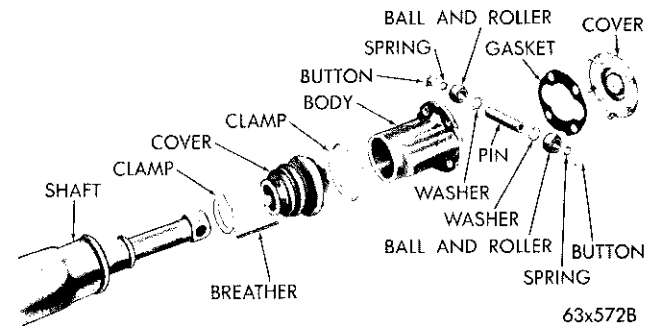
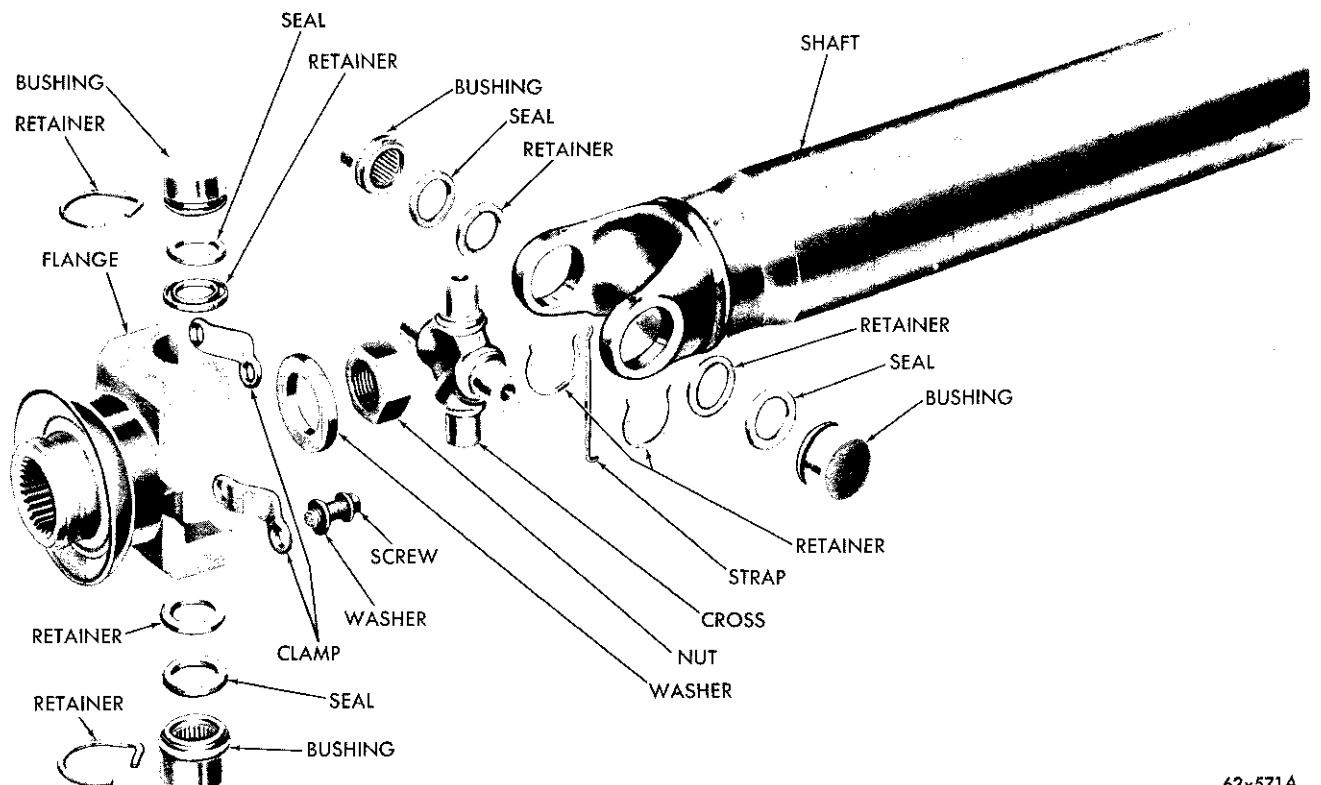
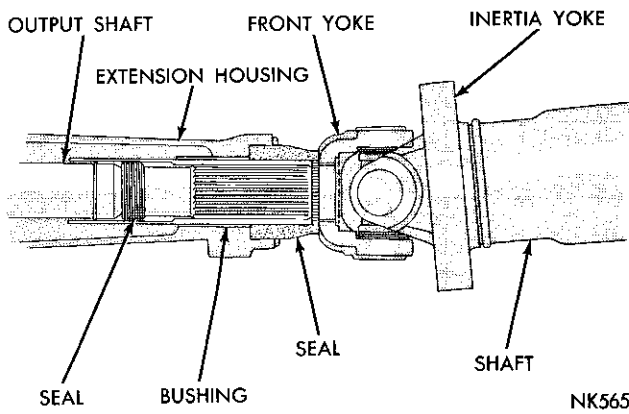

Fig. 1—Ball and Trunnion Universal Joint—Front (Manual Transmissions)
Fig. 2—Cross and Roller Universal Joint—Rear (All Models)
Fig. 3—Front Universal Joint Sliding Yoke (AC-1, AC-2 Models with Automatic Transmission)
All models equipped with manual transmissions use propeller shafts with a ball and trunnion type universal joint at the front end (Fig. 1) and a cross and roller type universal joint at the rear (Fig. 2).
AC-1, AC-2 Models equipped with TorqueFlite transmissions, use propeller shafts with a cross and roller type universal joint incorporating an inertia yoke and an internally splined yoke, at the front end (Figs. 3 and 4). A cross and roller type universal joint is used at the rear (Fig. 2).
The propeller shaft used on AC-3 models is provided with a constant velocity universal joint at the front end (Fig. 5). This joint is provided with a sliding type yoke, similar to that used on AC-1, AC-2 models. The rear joint is a single cross and roller type (Fig. 2).
(1) Remove both rear universal joint roller and bushing assembly clamps from the drive pinion flange (Fig. 2).
(2) Disconnect the joint from the transmission flange by removing the attaching bolt nuts (Fig. 1) and remove the propeller shaft from the vehicle.
(3) Slide the propeller shaft with the front yoke from the transmission output shaft (Fig. 3). Be careful not to damage splines on output shaft or yoke. Examine the sliding yoke seal for evidence of leakage. If no leakage is evident, do not disturb the seal. If necessary to replace the seal, refer to Transmission Group, 21.
(2) Engage the yoke splines on the end of the output shaft, being careful not to burr the splines (Fig. 3).
(1) Install the rear universal joint cross roller bushings in the seats of the pinion yoke. Install the bushing clamps and attaching screws (Fig. 2). Tighten the screws to 170 inch-pounds.
(1) Straighten the tabs on the cover (Fig. 1) and remove the cover and gasket. Push the body back and remove the buttons, springs, ball and rollers and washers from both ends of the trunnion pin.
(2) Remove the cover clamps and loosen the dust cover. Remove the cover and polished jute breather located between the shaft and rear end of the cover. Save the breather.
(3) Clean and examine the trunnion pin and raceways in the body for excessive wear. If wear is excessive, replace the body.
(4) If either part is to be replaced, use a hydraulic press and installing and removing jig Tool C-3567.
(3) Pack the balls and rollers with Universal Joint Grease, NLGI Grade 2. Install a thrust washer, ball and rollers, button spring and centering button on each end of the trunnion pin (Fig. 1).
(4) Position the dust cover on the propeller shaft with the jute breather parallel to the shaft and extending one-half inch outside the small end of the cover. Install and tighten the small clamp. Position the dust cover on the body and install and tighten the large clamp.
(5) Lubricate the joint with two ounces of Universal Joint Grease NLGI Grade 2, applying it evenly in both raceways, one-half back of the trunnion pin and one-half between pin and cover.
(1) Remove the four bushing retainers from the yoke (Figs. 2 and 4). Press one roller and bushing out of the yoke by pressing the opposite bushing.
(2) Press out the remaining roller and bushing assembly by pressing on the end of the cross.
(3) Remove the cross assembly from the yoke. **Do not remove seal retainers from the cross.** The cross and retainers are serviced as an assembly.